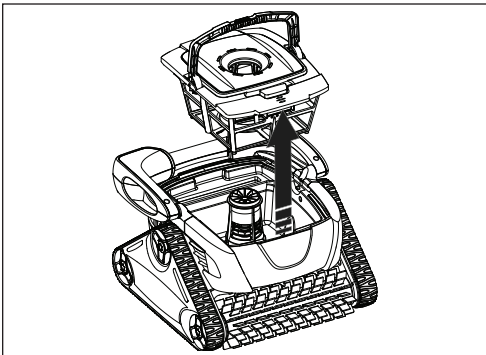

Figure 9. Remove the Filter Canister
5. Grasp the handle and lift up to remove the filter canister (Figure 9).